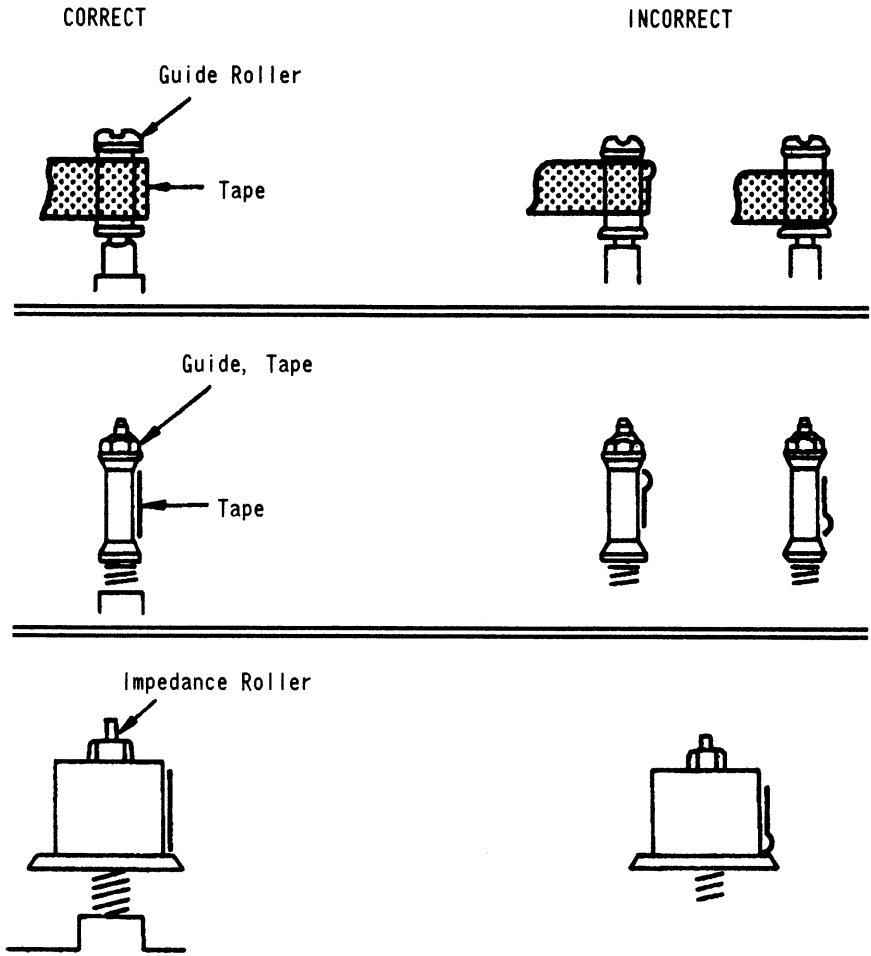

Fig. 3
5. During loading, play and unloading, observe the tape at the supply and take-up guide rollers, tape guide and impedance roller. Confirm that there is no curling or creasing etc., as shown in Fig. 3.
Adjust the height by turning the driver slightly so that the tape runs on the guide roller as shown in Fig. 3, and the lower edge of the tape runs along the lead surface of the cylinder.